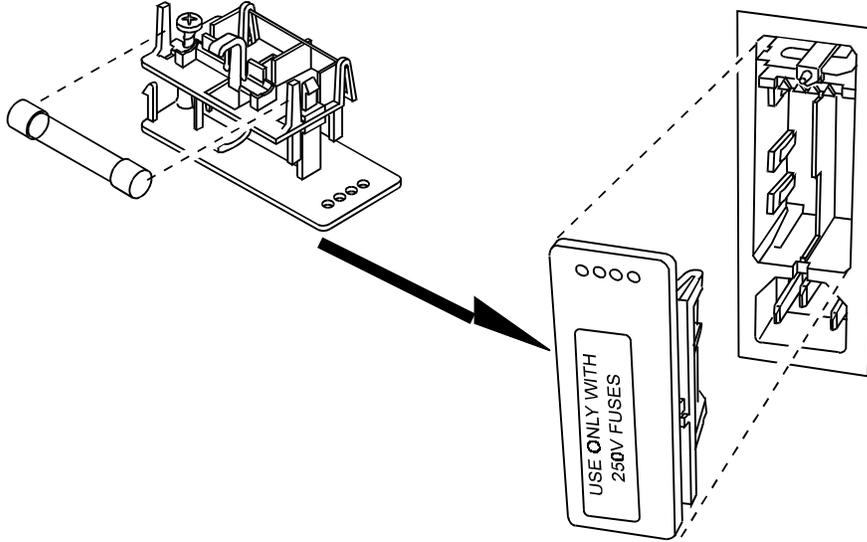

Figure 2-2. Fuse Location
6. After setting the voltage range, install the fuse. See Figure 2-2 for the location of the fuse block. Slide the fuse into the fuse holder.
Warning Ground circuit continuity is vital for safe operation of equipment. Never operate equipment with grounding conductor disconnected. Do not remove or alter the ground pin on a three-prong line cord. The line cord should have the electrical rating and plug appropriate for your location. See Figure 2-2 for the correct cord.